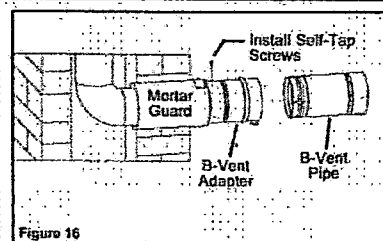

Figure 16
3. Engage the bullet end of the universal B Vent adapter with the flex pipe. Once fully engaged, secure the flex to the adapter using four (4) self-tapping sheet metal screws. Install the screws so that they penetrate through the flexible liner and the inner liner of the adapter (see Figure 16).